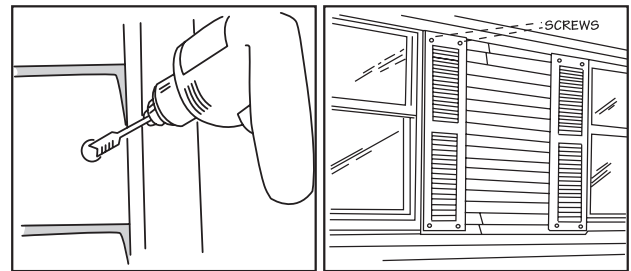

Figure 73
- Using the hole marks as a guide, drill expansion holes through the siding where attachment screws will be located, a minimum 1/4" (6.4mm) larger than the diameter of the screw (Figure 73).